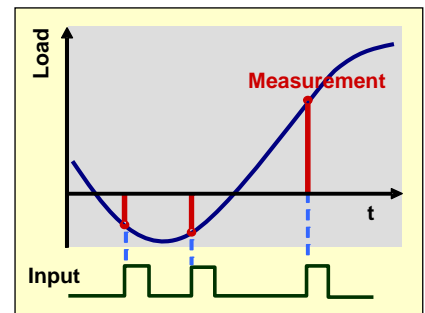

Fig. 4
7.2.4 *Transmit measurement (Fig. 4)* :